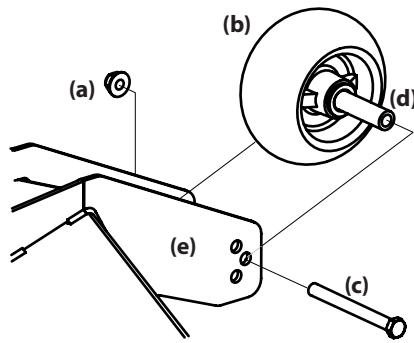

Figure 15
2. Remove the lock nut (a) securing one of the front gauge wheels (b) to the deck. Remove the front gauge wheel (b), hex screw (c) and spacer (d). See Figure 15.
3. Insert the hex screw (c) into one of the three index holes in the front gauge wheel bracket (e) that will give the front gauge wheel (b) a 1/4-1/2" clearance with the ground. See Figure 15.
4. Note the index hole of the just-adjusted front gauge wheel (b), and adjust the other front gauge wheels (b) into the respective index hole of the other front gauge wheel bracket (e). See Figure 15.